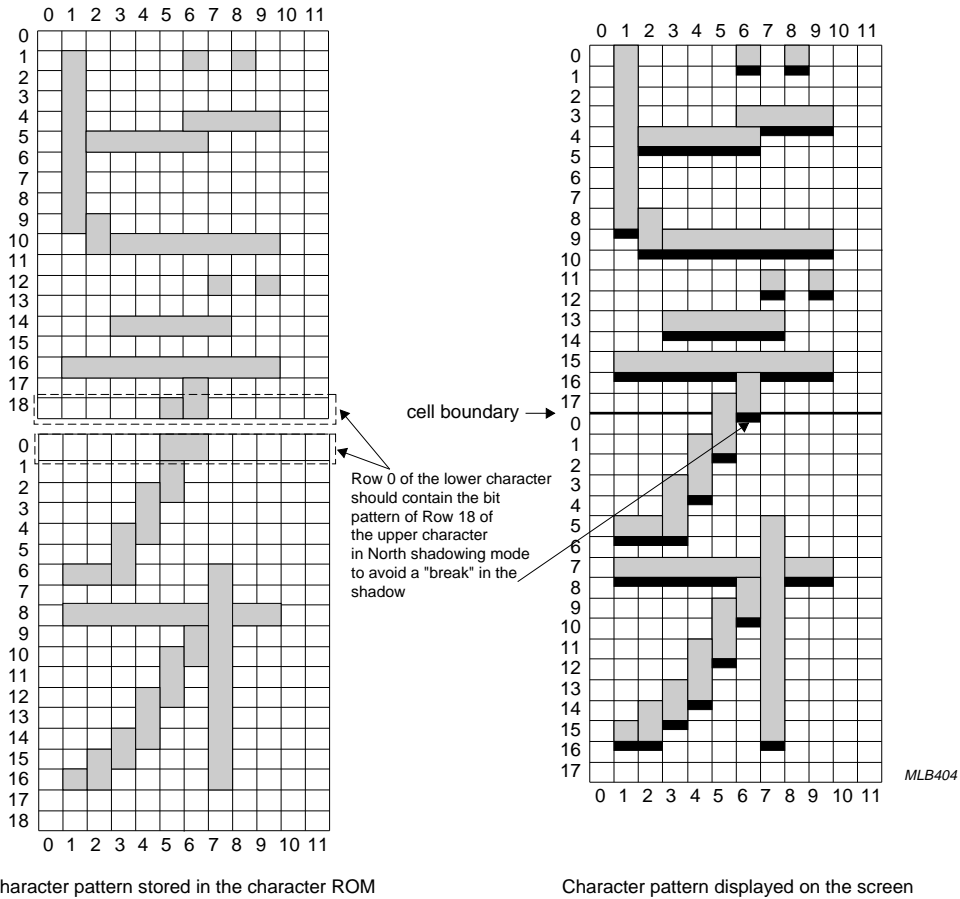

Fig.22 Combination of two character fonts in a vertical direction - without gap.
- If the North shadowing mode is selected then when combining two character cells in a vertical direction Row 0 must contain the same bit pattern as held in Row 18 of the character directly above it. This is shown in Fig.22.